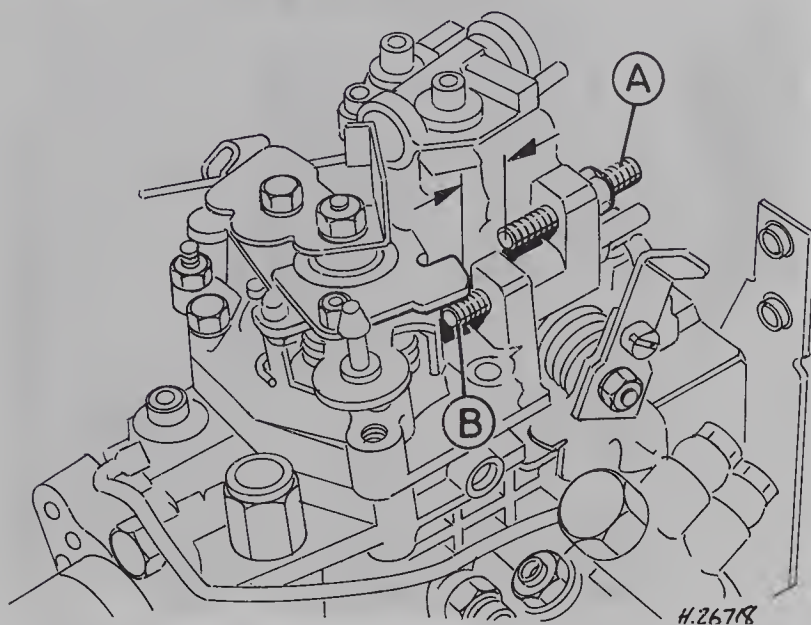

Fig. 8.21 EGR system vacuum regulator valve adjustment (Sec 5)
124 Fit an 11.8 mm (0.46 in) thick spacer between the throttle lever and third stop screw (A) – Fig. 8.21.
128 Hold the throttle lever hard against the maximum speed adjusting screw – Fig. 8.21.